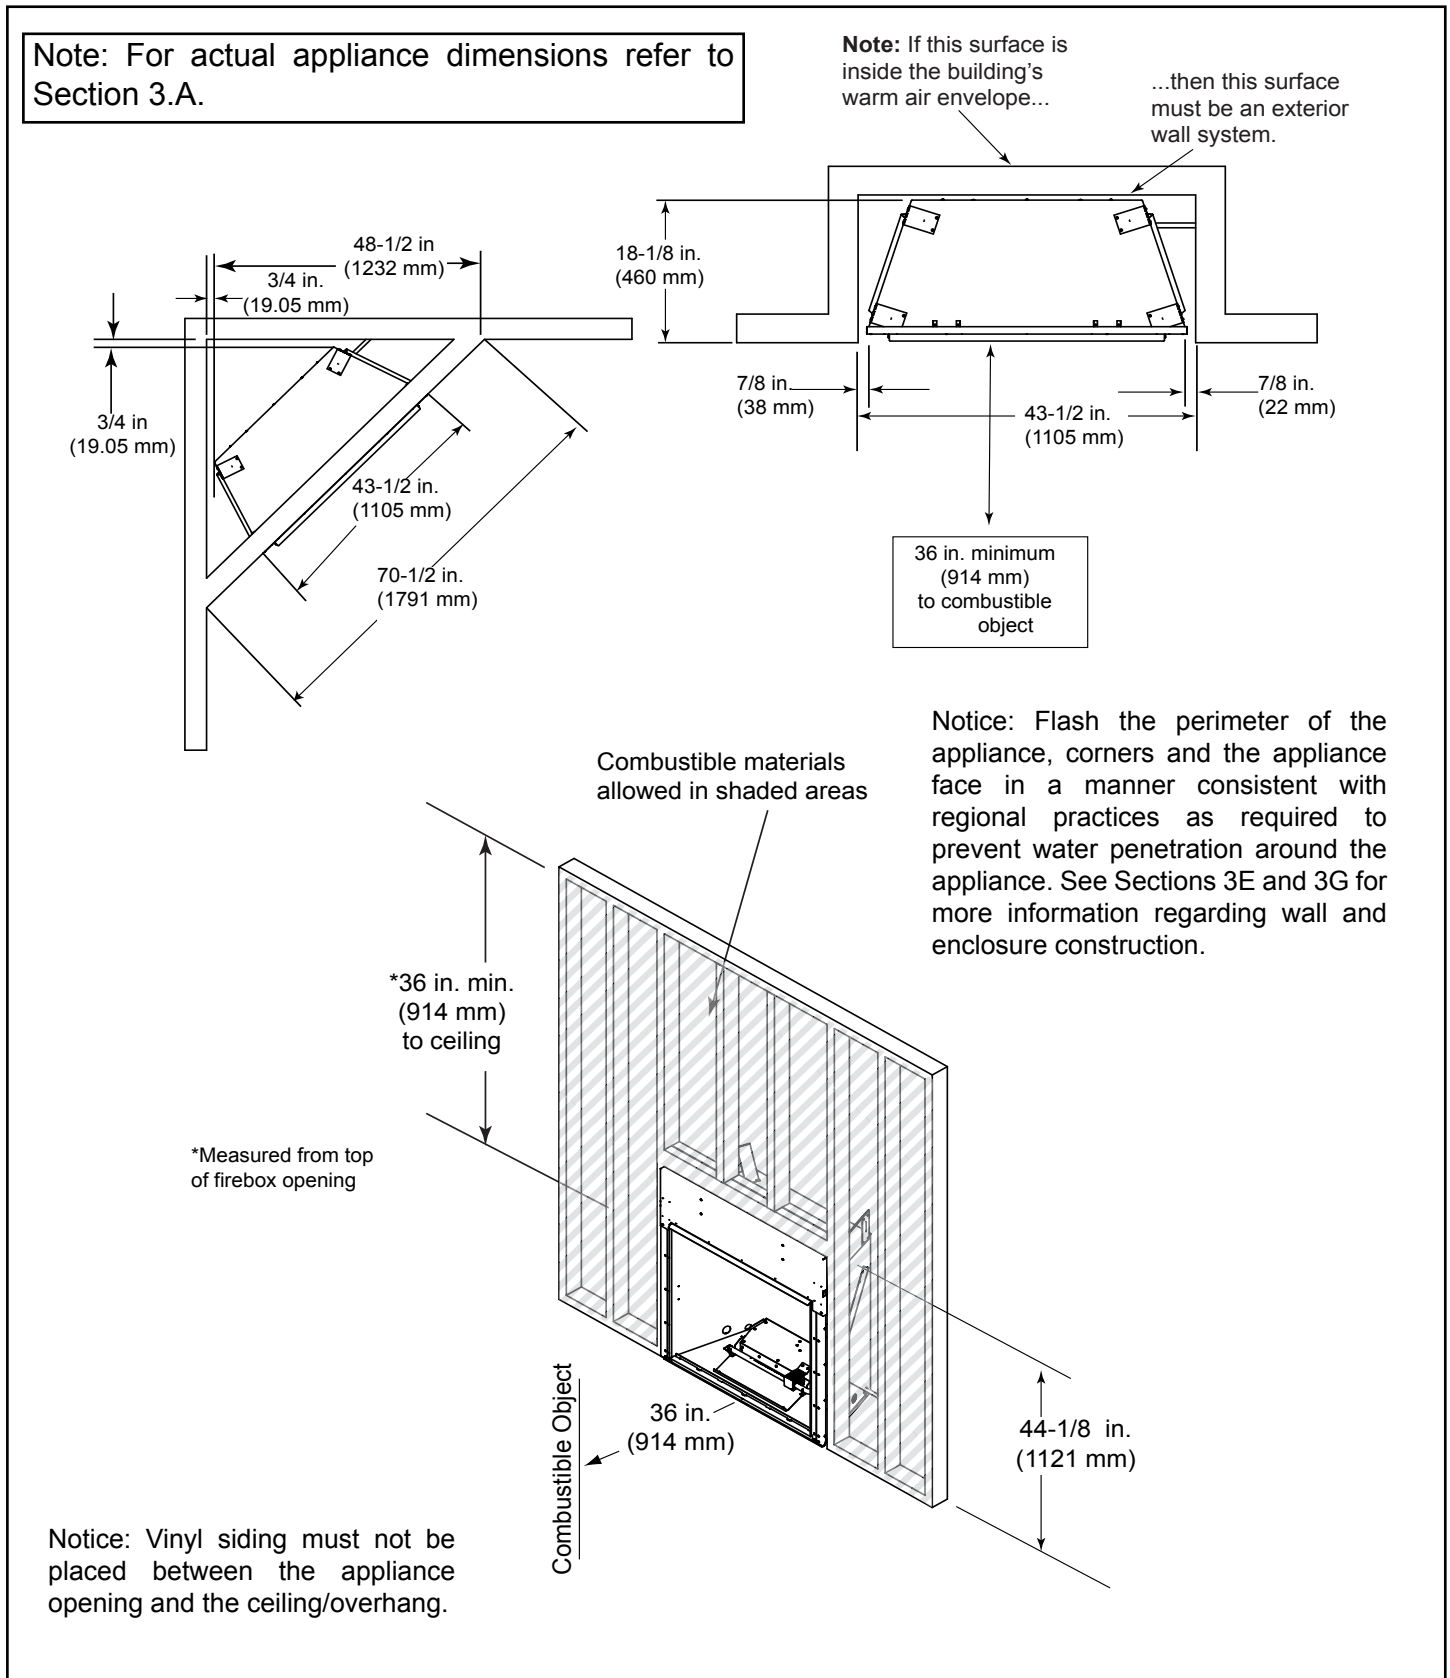
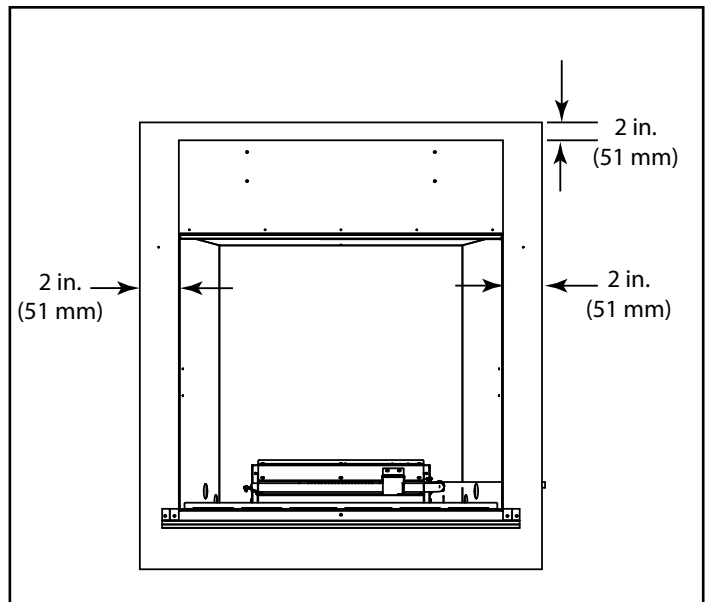

Figure 3.1. Appliance Locations and Framing Dimensions - ODCOUG-36
Figure 3.7. Front View Tape Location
Dimensions are actual appliance dimensions. Use for reference only. For framing dimensions and clearances, refer to Figures 3.1, 3.2, 3.3 and 3.4.
When selecting a location for the appliance, it is important to consider the required clearances to walls (see Figures 3.1, 3.2, 3.3, and 3.4.)
- See Figure 3.1, 3.2, 3.3 and 3.4 for required clearances.
- See framing measurements in Figures 3.1, 3.2 and 3.4.
A moisture membrane material can be taped 2" from the top of the rain shield; 2" on each side from top to bottom. The entire bottom of the unit can be used to tie in a water membrane material, however the bottom does have an incorporated drain pan with the front edge of the bottom edge being the point of moisture exiting the unit. This must be taken into consideration when sealing unit. As shown in Figures 3.7, 3.8 and 3.9.
- Flash the appliance in a manner consistent with regional practices to prevent water penetration around the appliance. Due to elevated temperatures across the top of the appliance, metal flashing and high temperature sealant must be used. Adhesive polymers flashing materials may melt. See Figure 3.7.
- See Section 3.H. and Figures 3.1 and 3.2. for more information regarding wall and enclosure construction required to prevent moisture penetration into the structure. The appliance will shed moderate amounts of water but is not waterproof. See Figures 3.7, 3.8 and 3.9.